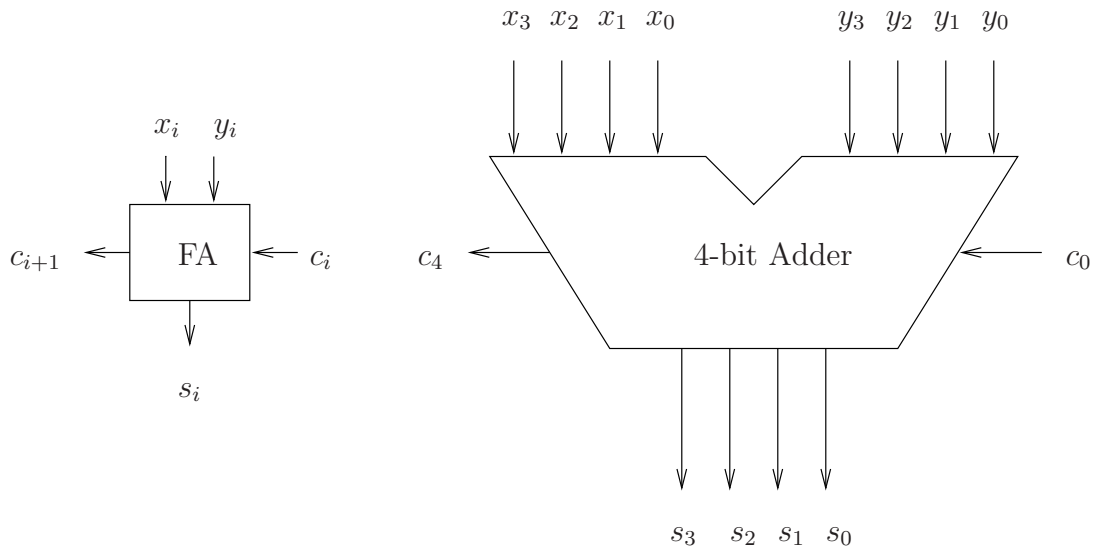

Figure 1: Adder Block Diagrams
Figure 1 contains the block diagram symbols for a 1-bit full adder (FA) and a 4-bit adder.